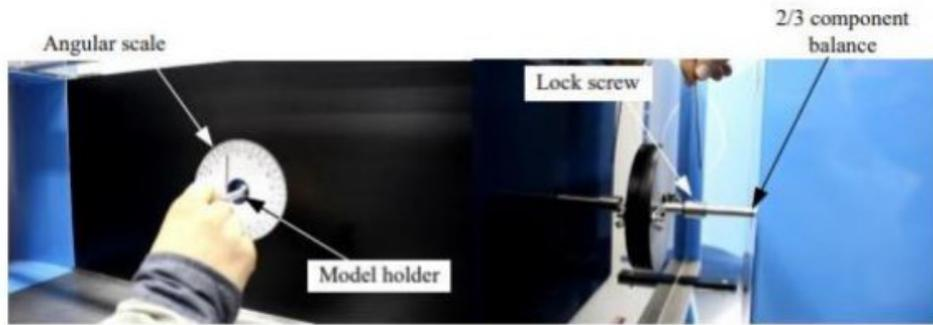

Figure 17. Install the model holder and set up the scale index
1.3. Insert the model holder through the hole from the inside of the test section as Figure 17. Then set the scale index at “0” degree and fasten the model holder into the 2/3 component balance rod.